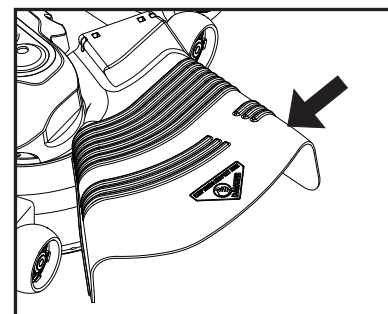

Fig. 21
**CAUTION:** Do not operate the mower without either the entire grass catcher, on mowers so equipped, or the deflector chute in place (See Fig. 21).